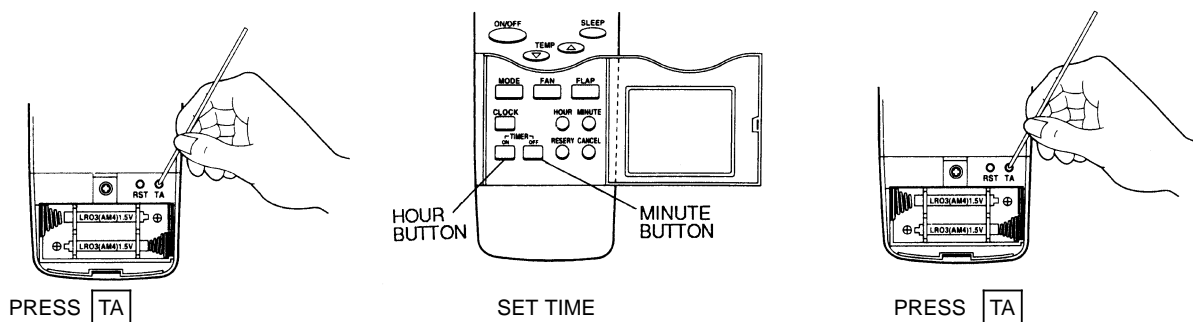

Fig. 23 — Setting The Current Time
1. Press the **TA** button (located on the back of the remote controller; see Fig. 23) with an instrument screwdriver or similar small, pointed tool, and the current time indication symbol flashes.